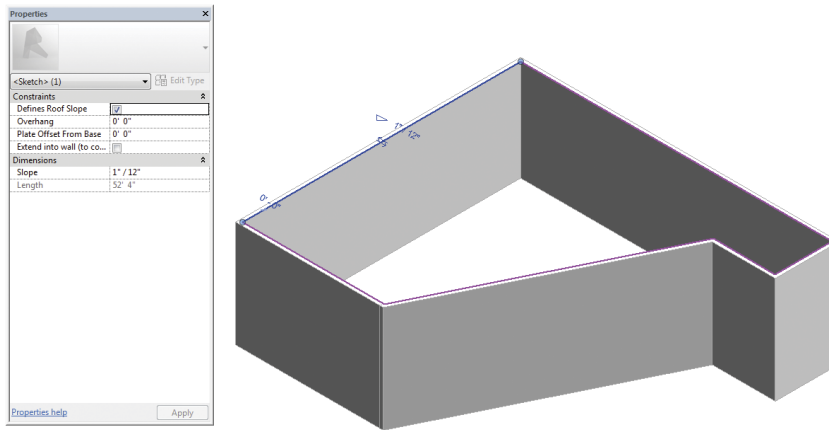

FIGURE 3.17 Roof sketch and slope properties
6. Define the Slope property for this roof sketch line with a 1" / 12" (83 mm / 1000 mm) rise over run (Figure 3.17).